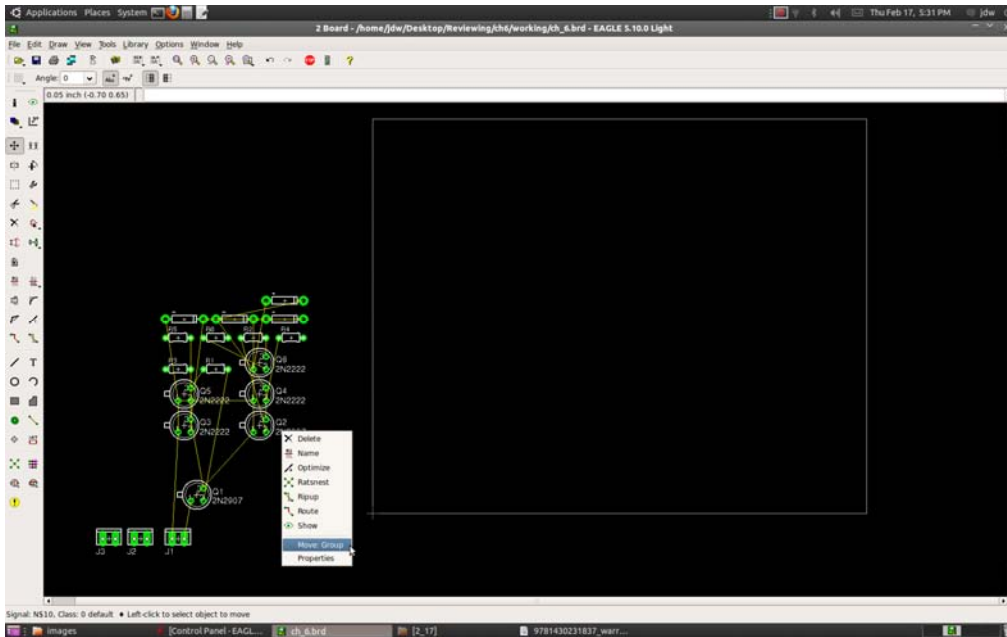

Figure 6-8. Each component needs to move into the workable layout board area.
2. **Move components:** With all the components now placed on the board editor screen, move each part into the working layout area, which is in the box on the board editor screen, as shown in Figure 6-8.